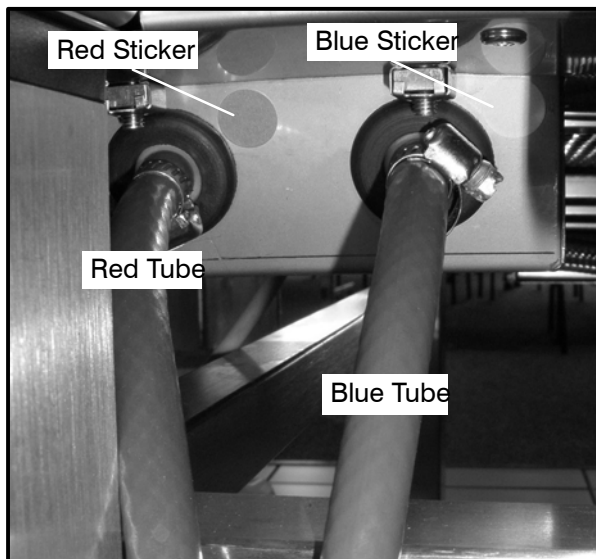

Figure 6
2. Connect the supplied detergent tubes (red and blue) to the underside of the oven near the rear. Connect the blue hose to the fitting with the blue sticker and the red hose to the fitting with the red sticker. See Figure 6.